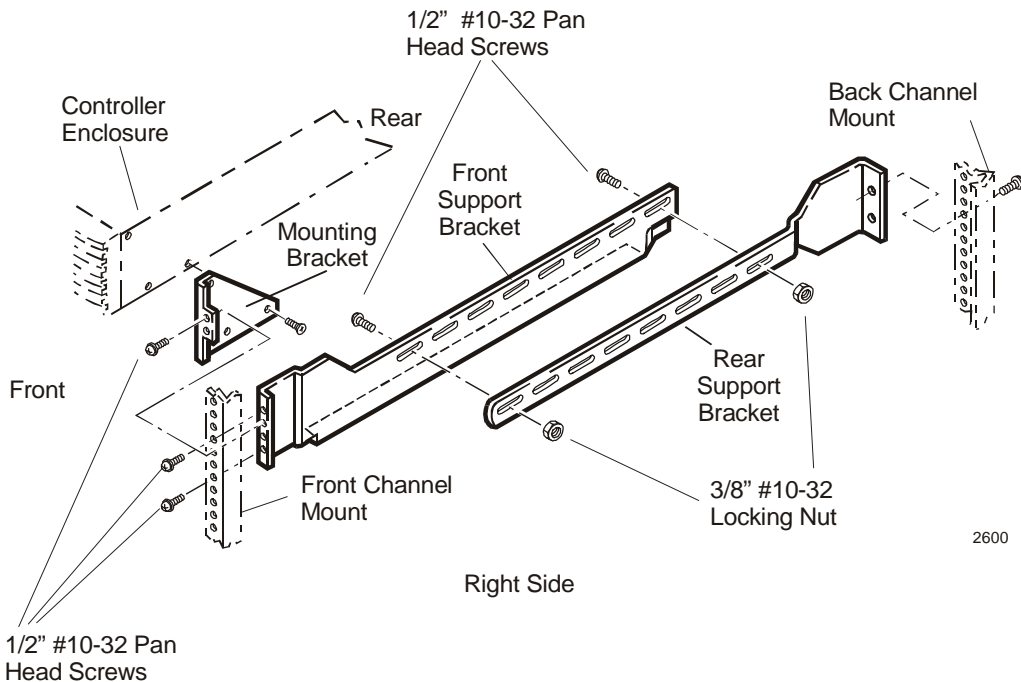

Figure 24. Installing Controller Enclosure Support Brackets
2. Attach the right front support bracket to the right rear support bracket with screws and nuts as shown in Figure 24. Adjust spacing so that together they fit between the rack vertical rails (the vertical rails in front and rear of the rack cabinet). The support angle faces the center of the rack cavity.